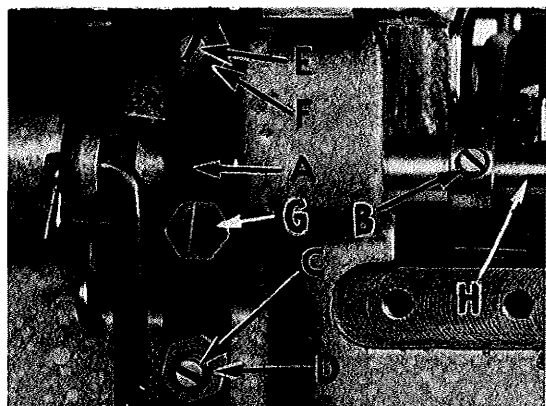

Fig. 17
The front edge of needle hole in presser foot must be aligned with front edge of needle hole in throat plate. It is also important that the bottom of the presser foot be flat on the throat plate. If necessary, presser foot can be realigned with throat plate slots by shifting the foot lifter lever shaft (H, Fig. 17). To move the shaft, loosen collar screws (B, Fig. 17) and clamp screw (G) and then shift the foot lifter lever shaft to the left or right as required. Retighten collar screws and clamp screw.
The foot lifter lever arm (A, Fig. 17) and the collar (B) secure the shaft. Be sure the presser arm does not bind or rise when presser foot release bushing is unlocked.